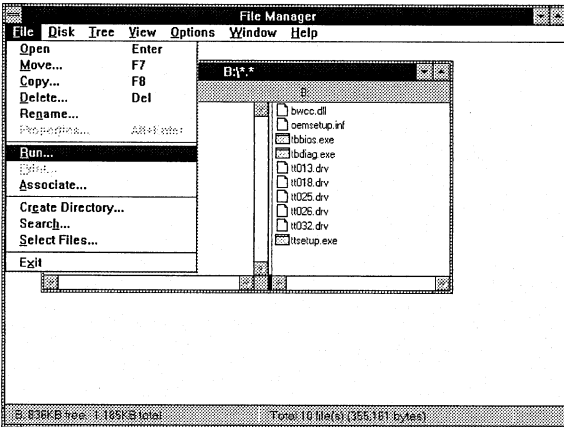

fig. A-1
4. Select Run from the File menu (fig. A-1).